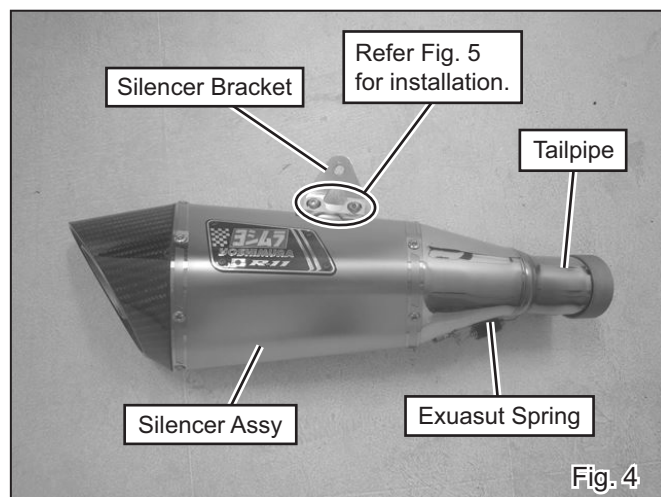

Fig. 4
- 5) Install Silencer Assy to Tailpipe and fix them with Exhaust Spring (See Fig. 4).
- 6) Attach Silencer Bracket onto Silencer Assy with 2 of each Button Bolt M6x20, Washer M6x13 and Flange Nut M6 (See Fig. 4 & 5). Tighten the bolts by hand only at this stage.